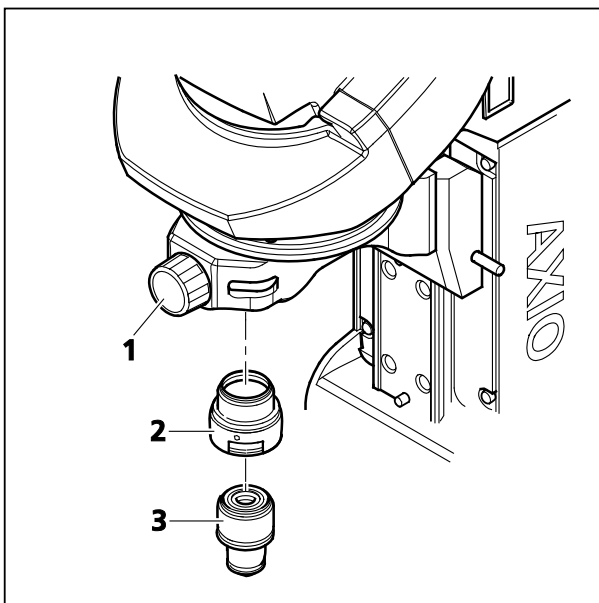

Figure 3-34 Installing an adapter for 45 mm objectives
- Use the shift knob (Figure 3-34/1) to move the objective mount into the WORK position.
- Screw in the 30 mm adapter (Figure 3-34/2).
- Screw the objective (Figure 3-34/3) into the 30 mm adapter.